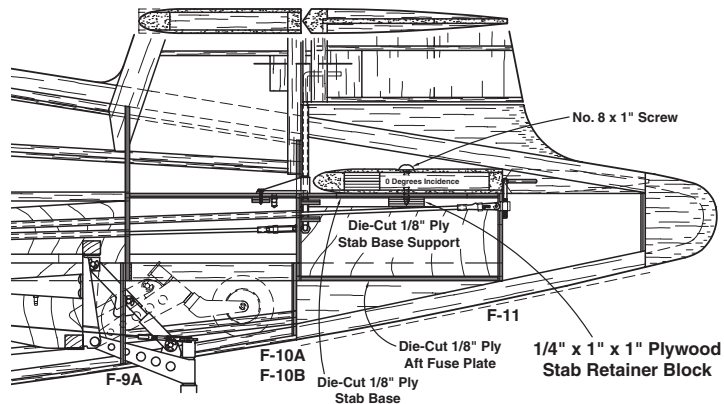

figure 1
- On page 25, after completing step 21, skip forward and perform steps 27 through 30. After completing step 30, return to step 22 and use epoxy to glue the 1/4" x 1" x 1" plywood stab retainer block to the stab base before gluing the plywood stab base and stab base supports to the aft fuse plate. See figure 1.